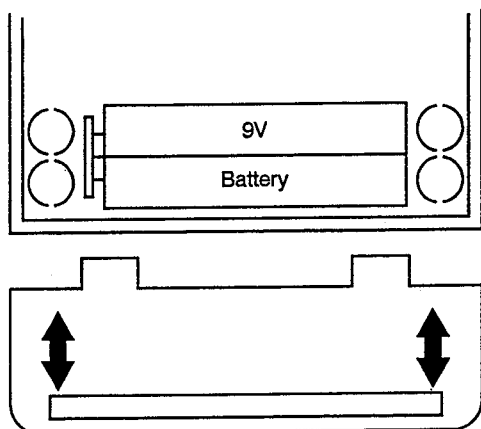

Fig. 2
4. Remove the battery from the compartment and unsnap the battery connector. (See Fig. 2)